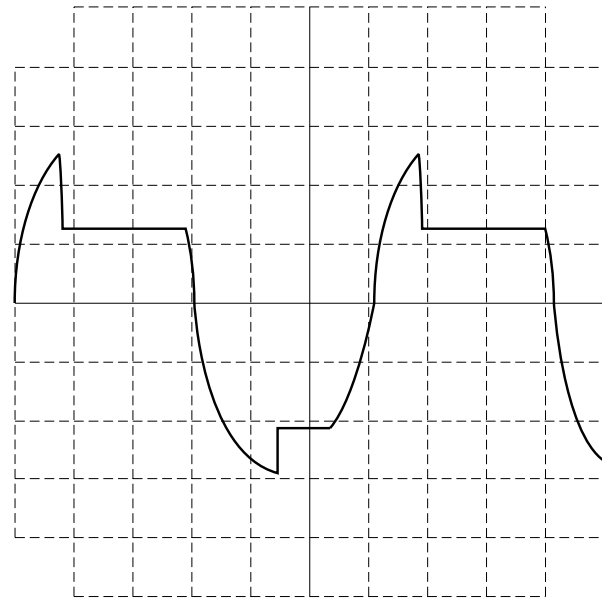

Figure 5. ODEP Limiting Wave Form
**Procedure:** Load the amplifier to 4 ohms per channel. Inject a 60 Hz sine wave into each channel and adjust the output to 15 VAC. Allow the amplifier to heat up until you observe a wave form similar to figure 5. Allow the amplifier to cool for a few minutes. Switch the amplifier to Parallel Mono mode and remove the load from channel 2. Inject a 60 Hz sine wave into each channel and adjust the output to 15 VAC. Allow the amplifier to heat up and observe limiting on both channels.